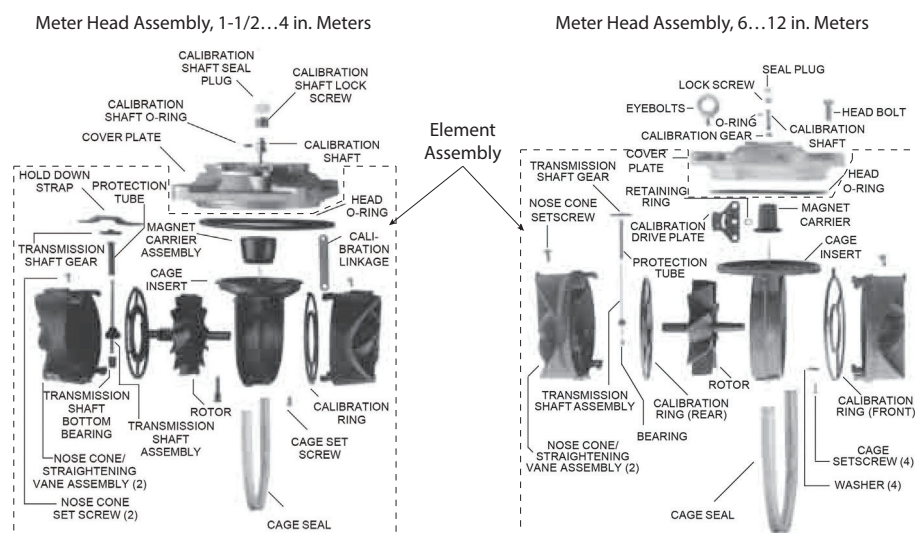
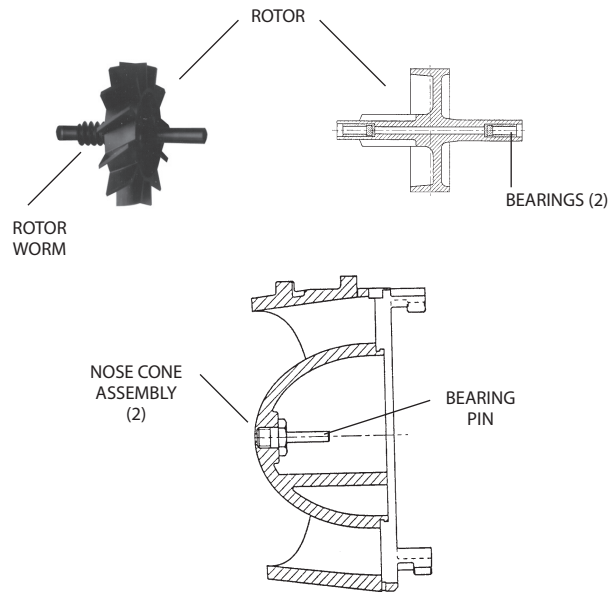

Figure 3: Meter head assembly
Figure 5: Rotor and nose cone assembly (1-1/2, 2, 3, 4 and 6 inch turbo head assemblies)
2. Remove the shroud by rotating the register assembly counterclockwise until it stops. This provides clearance so it can be lifted off the measuring element assembly. See Figure 3.
3. To remove the measuring element from the cover, remove the calibration shaft seal plug and the lock screw (for 1-1/2...4 inch sizes). See Figure 3.
6. The measuring element insert can be removed from the cover plate for service or replacement by removing the cage set screws (quantity of one for 1-1/2...4 inch, quantity of 4 for the 6...12 inch size). See Figure 3.
1. To remove the magnet carrier from the measuring element insert, lift it off the stainless steel pin. See Figure 3.
3. Remove the hold-down strap (for the 1-1/2...4 inch only). See Figure 3.
The straightening vanes are an integral part of the upstream and downstream nose cone assemblies. See Figure 3.
4. For 6...12 inch meters, remove the retaining ring that holds down the calibration drive plate, located under magnet carrier. See Figure 3 and Figure 5. Remove drive plate. Rotate calibration ring until pin clears slot of cage. Take hold of the nose cone/straightening vanes and turn clockwise. Pull the nose cone assembly out from the measuring element insert. Remove rotor assembly.
To disassemble the calibration ring assembly (see Figure 3, "Removing the Meter Head" on page 10 and "Removing the Straightening Vanes/Nose Cone" on page 11):
Check the rotor worm and blades for signs of damage and wear. Also inspect the bearing bushings in the front and rear shaft. If damage or wear has occurred, replace the element assembly (see Figure 5). If water deposits are found, remove any mineral deposits from the rotor blade surfaces, cage insert interior disc, and nose cone vanes and mating surfaces.
Inspect the rotor bearing pins in the straightening vane and nose cone assembly for signs of damage and wear (see Figure 5). The spherical end of the bearing pin must not show any drag lines, large flat spots and/or wear. If the bearing pin shows any of these conditions, replace the element assembly.